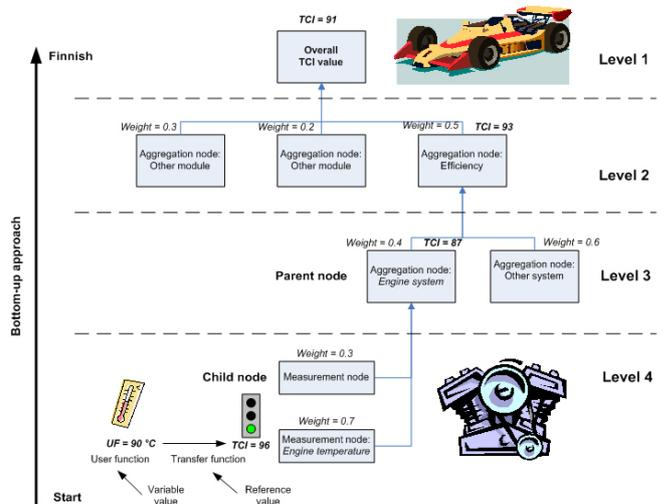

Figure 3. Analytic hierarchy process for calculating TCI of a car.
The TCIs are calculated using an analytic hierarchy process, meaning it has been used a structured technique to calculate values. The hierarchy of a technical system can be illustrated in Figure 3 with TCIs for a car.
When calculating TCI, a bottom-up approach is used, meaning the calculation starts at lowest level and is finally aggregated to an overall TCI value at top level. In Figure 3 a user function (UF) for level 4 is calculated, in this case the engine temperature in a car. The user function could consist of one or several variables and parameters. Further, the user function must be transformed into a feasible TCI value, using a transfer function. A reference value of UF representing 100 TCI is therefore necessary. The reference value can be collected from different sources:
A child node is simply a node with a lower level than the parent node as illustrated in Figure 3.